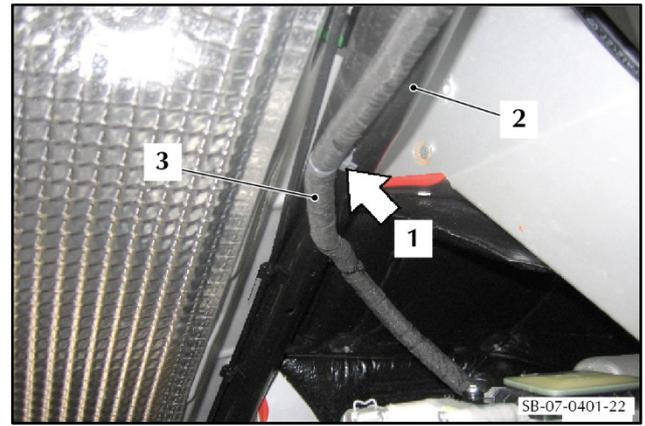

Figure 51
- 101.** Use the transmission lift to lift the transaxle sufficiently to install the clip (1) that attaches the electrical harness (2) to the subframe (3) (refer to Figure 51).